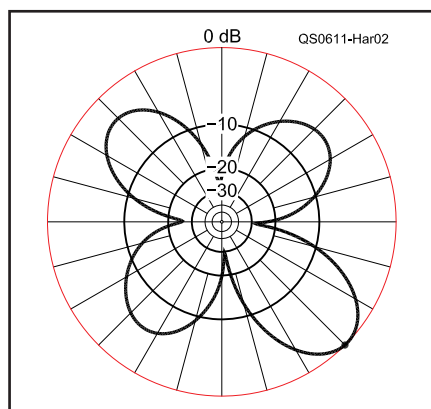
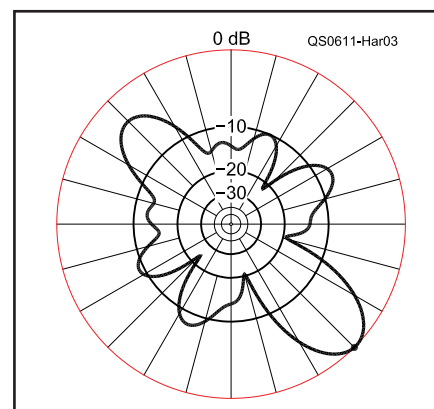

Figure 2 — Azimuth pattern of 300 foot loop on 14.2 MHz at elevation of 25°. Peak gain is 12.5 dBi.
Figure 3 — Azimuth pattern of 320 foot loop on 14.2 MHz at elevation of 20°. Peak gain is 13.3 dBi.
A good rule of thumb is to start with a loop about 5λ at the highest desired DX operating frequency. Therefore, using the usual formula for a 1λ loop, $1005/\text{freq (MHz)}$, a 1λ loop for 18.1 MHz would have a circumference of approximately 56 feet, so our model loop should be about 280 feet in circumference. I then modeled a square loop 40 feet above real/high accuracy ground with dimensions of 70 feet per side.⁶ After some experimentation, I found a leg length of 75 feet with the feed source in a corner of the loop would produce the clean cloverleaf pattern shown in Figure 2 on 20 meters, which was what I desired. Any longer leg length would give more gain, but would make the antenna more bi-directional as shown in Figure 3. Such a pattern may meet your needs. What about other shapes and feed points? Table 1 gives a comparison of these, showing circular, square and triangle loops, with the square and triangle loops being fed in the corners (AF) and midway along a leg (CF).